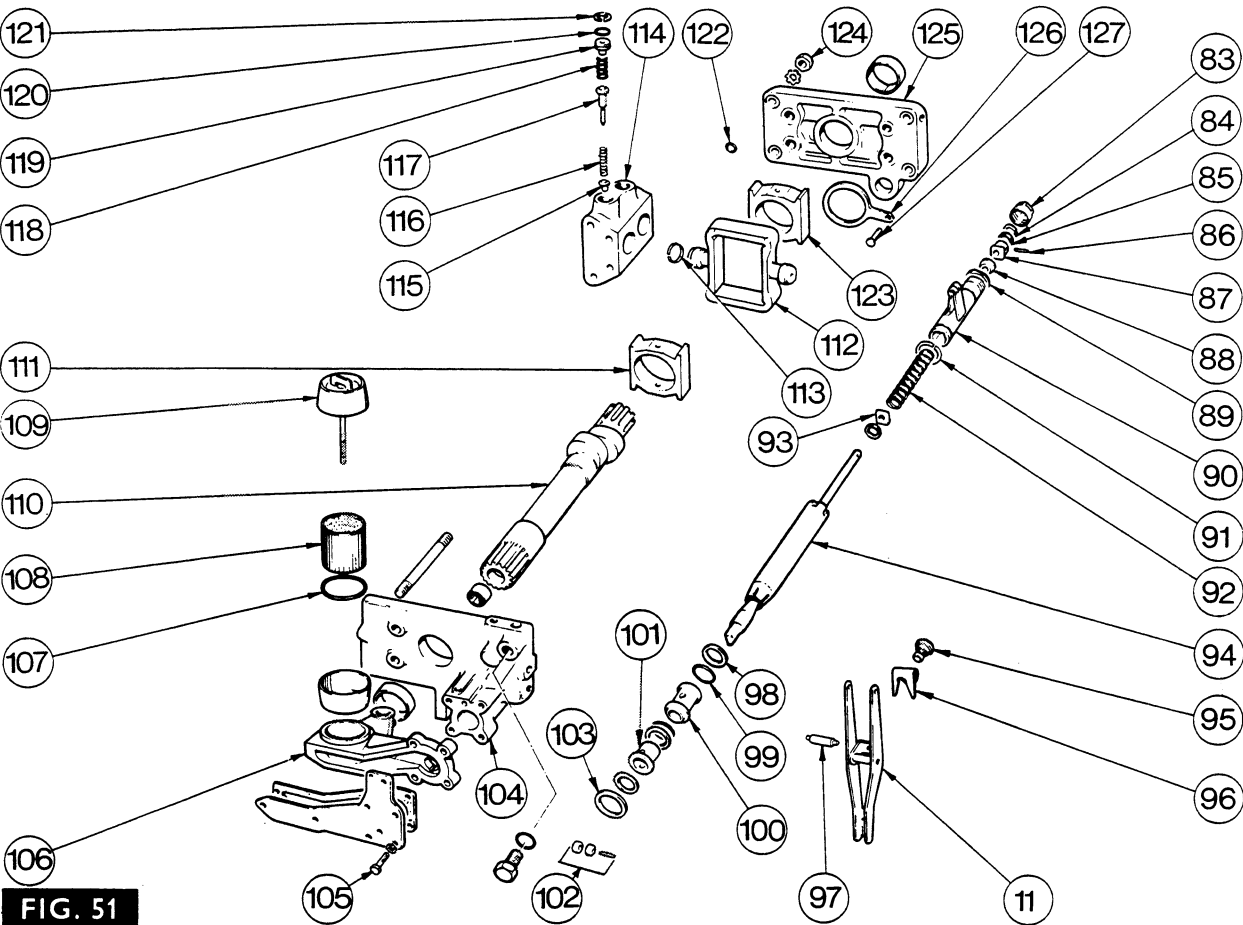

FIG. 51
- 5. Fig 51. Release the locking wire on the stainer head (109) and remove the head, filter (108) and sealing ring (107).
11. Fig 51. Fit a new sealing ring (107) and filter (108) and refit the strainer head (109), securing it with locking wire.